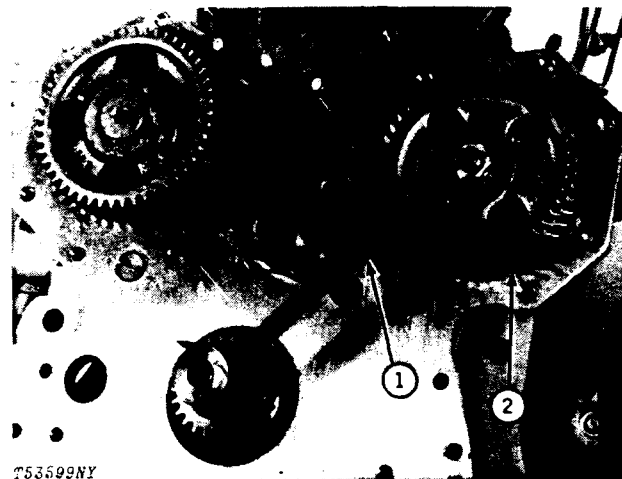

Fig. 37-JD-254 Timing Tool
Using JD-254 Timing Tool (1, Fig. 37), align timing mark on fuel injection pump gear (2) with the timing tool.